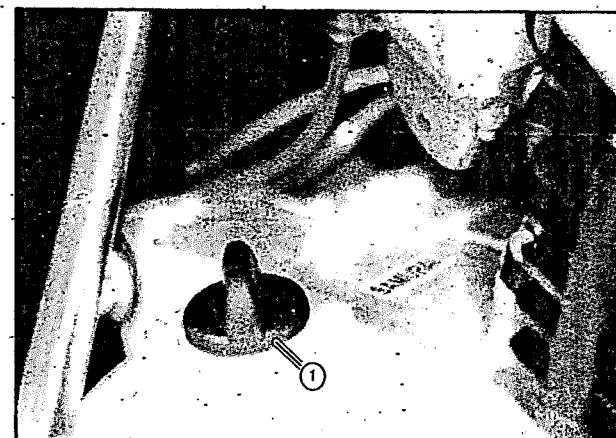
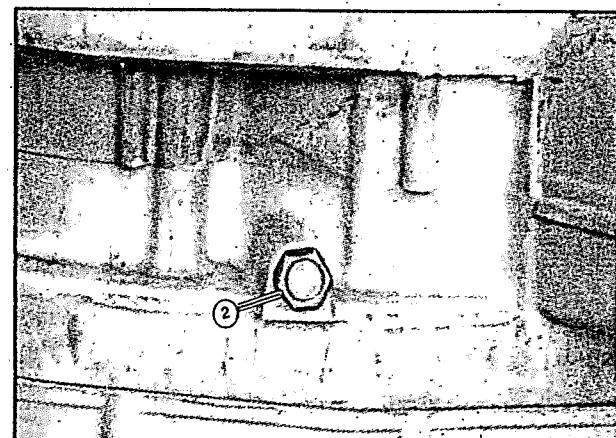

Fig 2.18
Fig 2.19
- Unscrew the oil filler plug (1) (fig 2.18) and drain plug (2) (fig 2.19) and drain the oil completely.